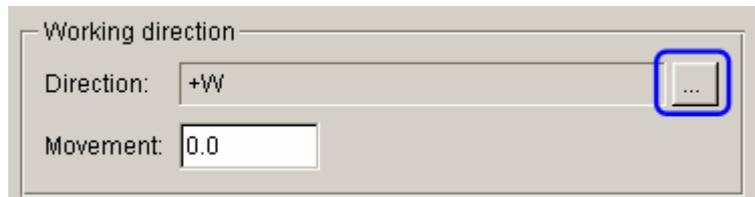

Figure 5.64 Working direction definition
39. Click  button to display the DIRECTION dialog box illustrated in Figure 5.64.